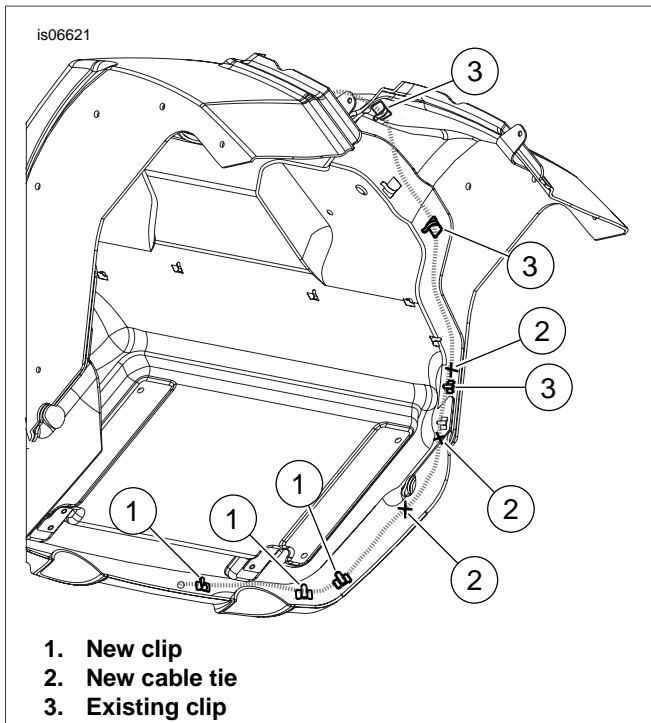
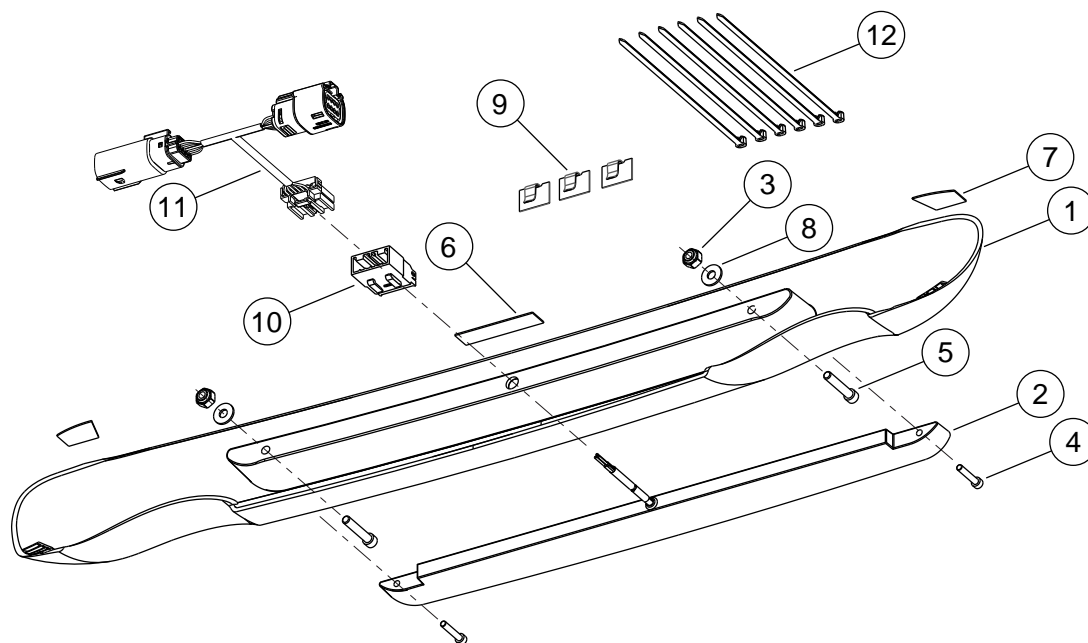

Figure 2. Wire Harness Routing (Underneath view of trike body. All chassis components removed for clarity)
Figure 4. Service Parts: TRIGLIDE Light Fascia
See Figure 4 and Table 1.
3. See Figure 1 and Figure 4. Position the chrome fascia against the muffler skirt (1). Make sure that the fascia is centered and that the top edge contacts the underside of the body lip. Do not remove the backing from the adhesive pads. Temporarily tape or hold the fascia in place.
9. See Figure 4. Bolt the fascia in place using the socket head screw #10 (5) and nut (3). Tighten to 20 in-lbs (2.3 Nm).
11. Feed the wiring of the LED assembly (2) through the center hole in the fascia. Install the assembly with #6 screws (4). Tighten to 15 in-lbs (1.7 Nm).
12. See Figure 2. Using the provided adhesive backed clips, existing body clips and cable straps, route the wiring along the inside of the body as shown exiting under the seat area.
13. See Figure 4. Insert the terminal pins into connector (10) as detailed below: